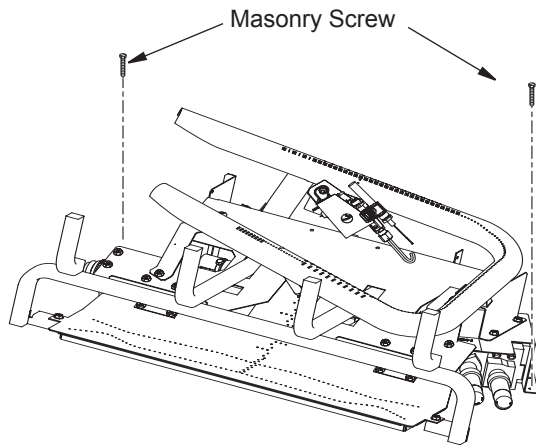

Figure 10 - Attaching Base to Fireplace Floor
3. Mark screw locations through holes in front panel of base (see Figure 10, Page 8). If installing in a brick-bottom fireplace, mark screw locations in mortar joint of bricks.
6. Attach base, through holes in back side panels of base, to fireplace floor using masonry screws provided in hardware package (see Figure 10, Page 8).